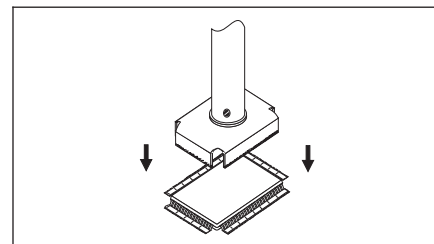

Figure 3 Position Tip
10. Gently lower tip over component, contacting ALL leads. (See Figures 3 & 4.)